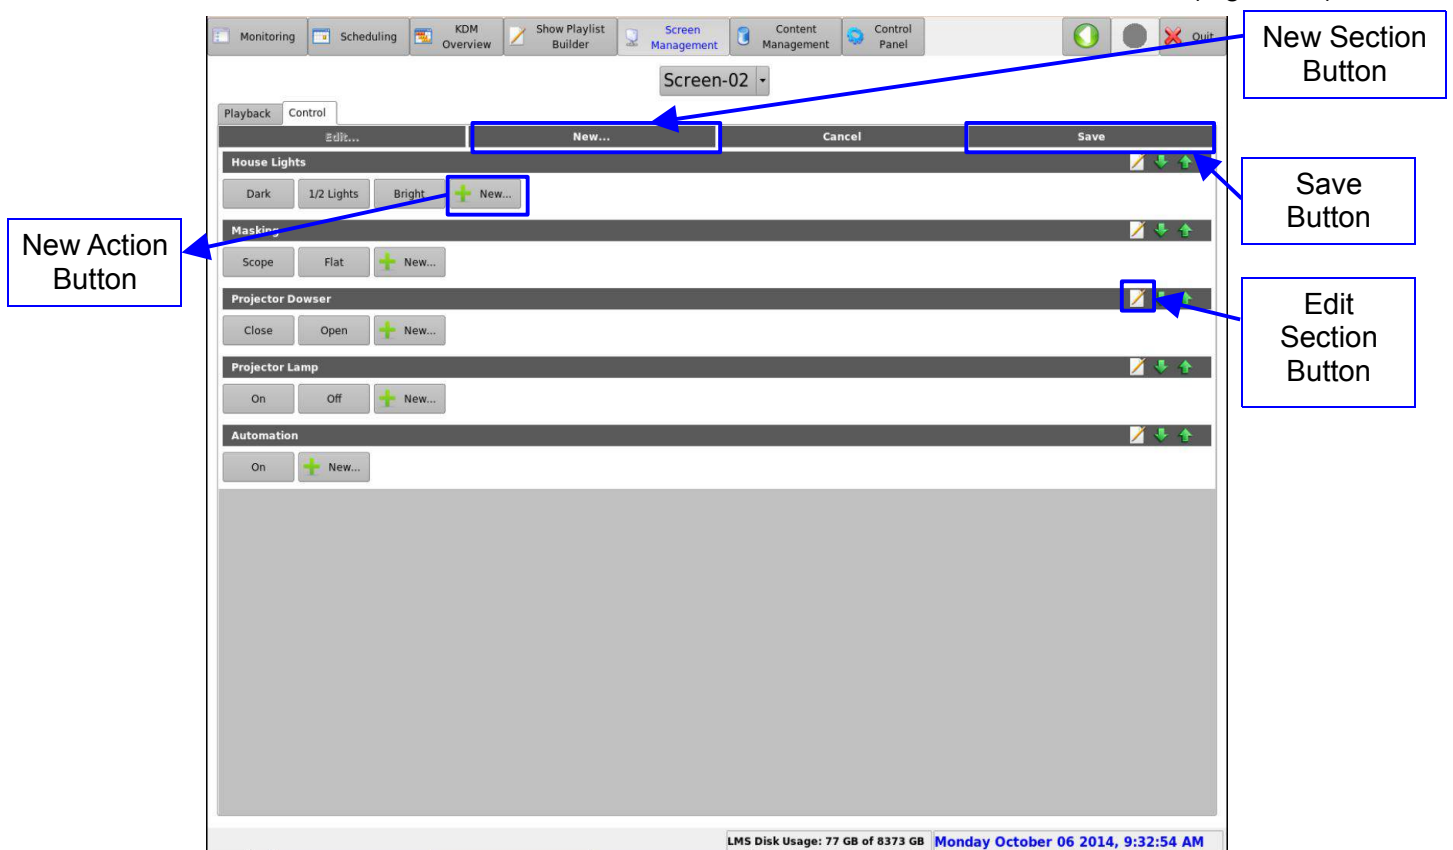

Figure 80: Screen Management: Control Tab
The Control tab enables the user create and execute Macro Cues on a selected screen (Figure 80).
- To add a new Section click on the New button (Figure 80).
- In the new section, the user will be able to add actions to each section (Figure 80).
- To add a new action, click on the New button in the desired section (Figure 80).
- Click on the Save button to save created section and applied macros (Figure 80).
- To remove a section from the list, click on the Edit button in the section to be deleted (Figure 80).